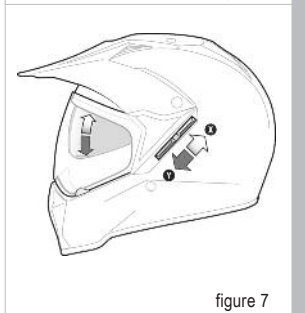

figure 7
See Figure 7
**The movement of the inner sun visor is carried out using the button located at the back on of the MX Tourer, on the left (See Figure 7).**